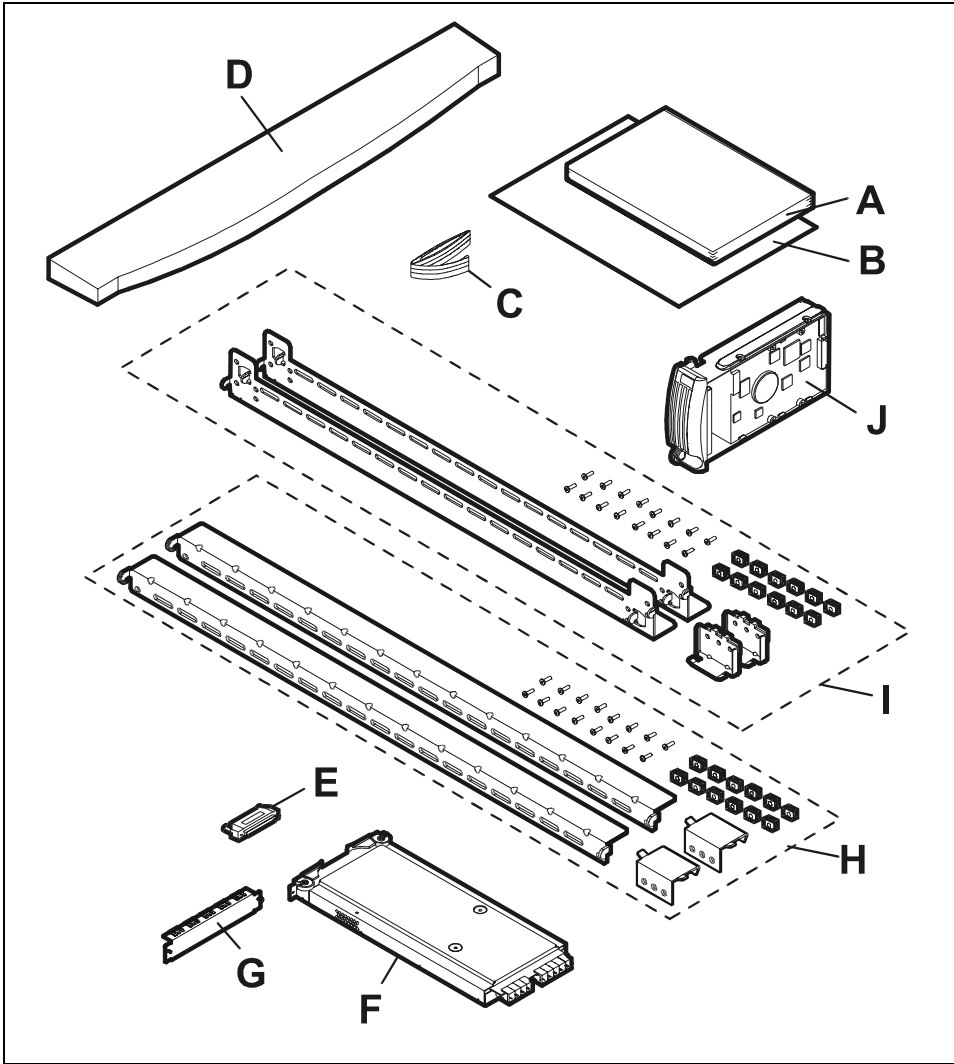

Figure 13 Disk System Accessories
1. Lift off the overcarton and verify the contents of the accessories (top) box. See Table 6 and Figure 13.